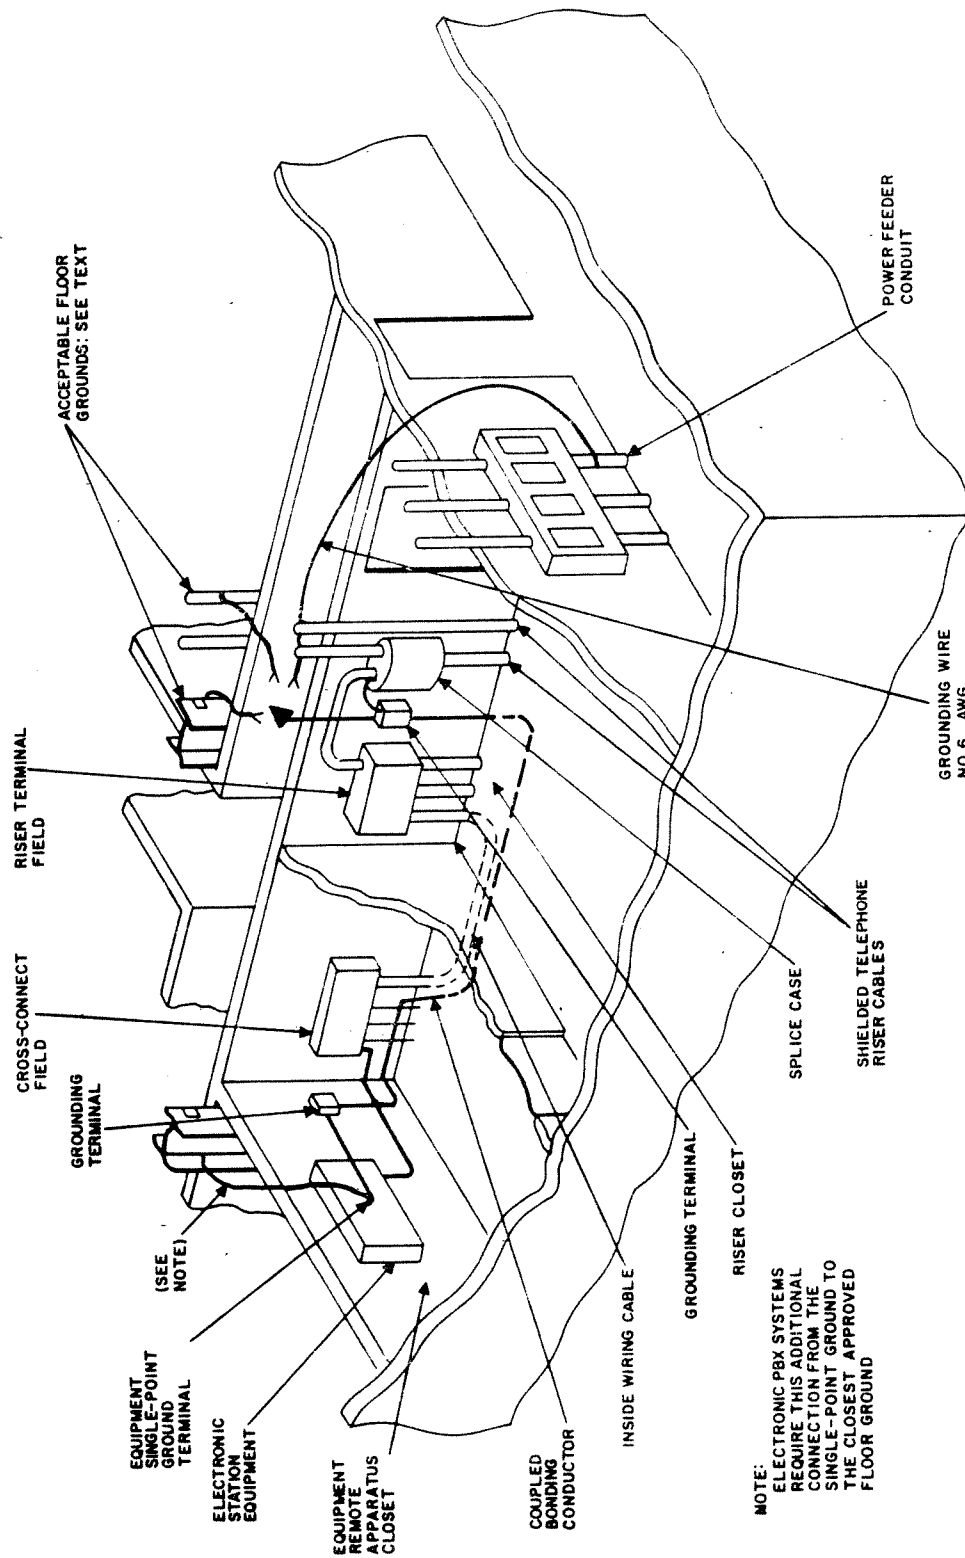

Fig. 2—Equipment Bonding—Typical High-Rise Building Floor
2.04 High-Rise Buildings: The material in this practice applies equally well to KTS installations in high-rise buildings as it does to smaller structures. It is recognized, however, that special problems may be encountered in the location of satisfactory grounding points in high-rise buildings. Ideally, a specific telephone ground is provided on each floor during construction; this ground should be located and used. It is recommended that an 8A ground strip be used to extend the coupled bonding conductor at the building entrance facility and at the floor entrance facilities (Fig. 2).